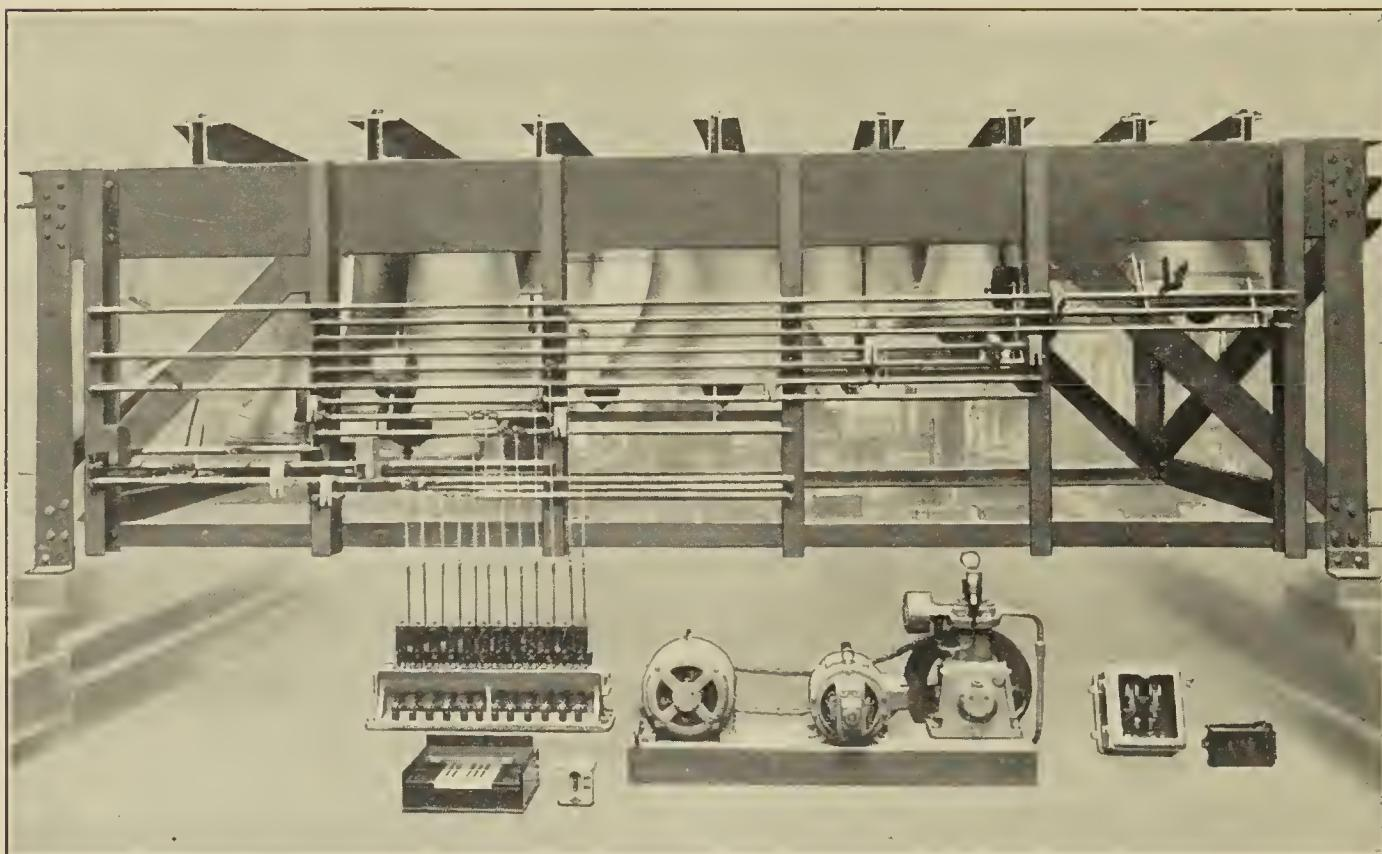

Fig. 3. Chime of Eight Bells with Electro-pneumatic Operating Gear
**Electro-Pneumatic Mechanism:** Fig. 3. The action is identical with that in use on our Carillons; inside clappers are used and the control is by ivory keyboard for hand playing or by a Paper Band Automatic Playing Machine.